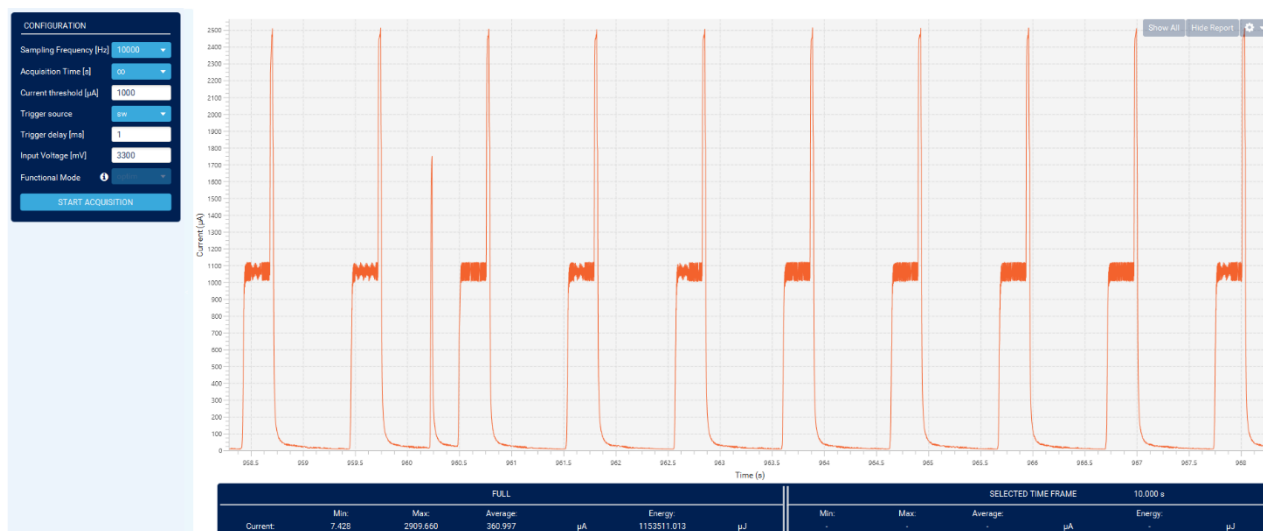

Figure 13 : Real time consumption sending "send data" query every 20 second. Average consumption is 360 µA
- With “send data” query every 20 second (figure 13).